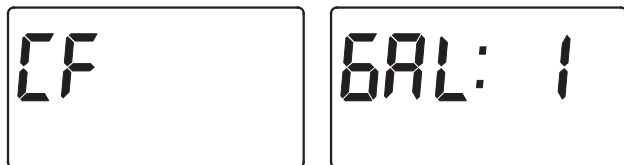

FIG. 23
- 4. CHEMICAL FEEDER TRIP VOLUME:** If you have set the auxiliary output control to CF (Chemical Feeder), you will need to set the volume of water which must flow past the turbine before the auxiliary output is turned on. With the alternating screens in Fig. 23 shown, use the ↑ UP or ↓ DOWN buttons to set the trip volume, in gallons.